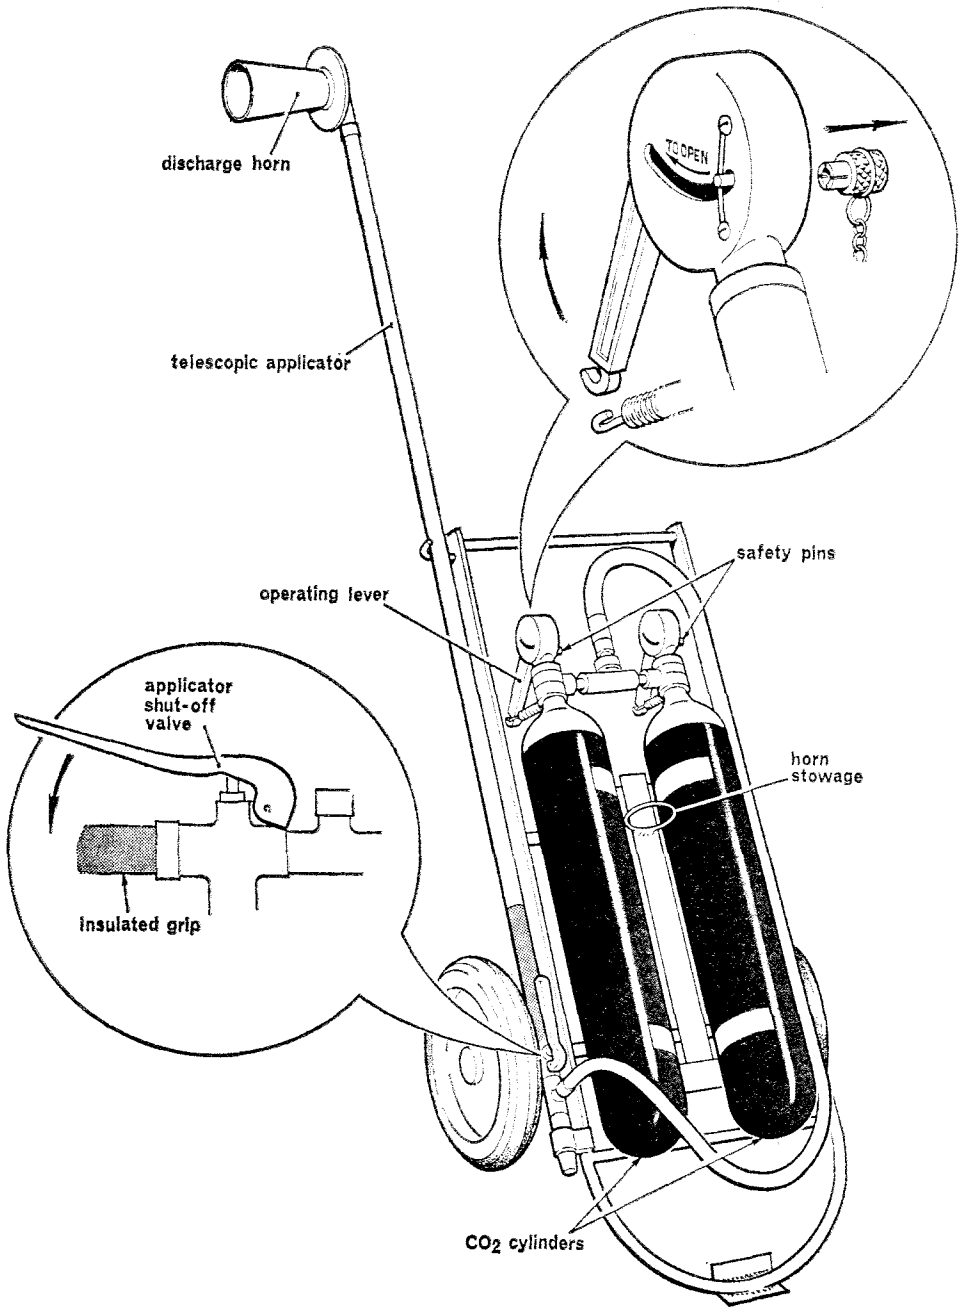

Fig 4. CO₂ trolley (Flight Line type)
12. **CO₂ trolley.** This mobile appliance is provided primarily for the protection of parked aircraft and is specially designed for dealing with outbreaks of fire during engine-starting. It must always be available when engines are being started or run-up on the ground. Fig 4 shows the trolley which carries two cylinders each containing 10 lb of liquified CO₂. Each cylinder is fitted with a disc-closure valve coupled through a manifold to a length of high pressure hose and a telescopic applicator with an insulated handle. To prevent 'cold burns' the applicator must be held by the insulated handle.